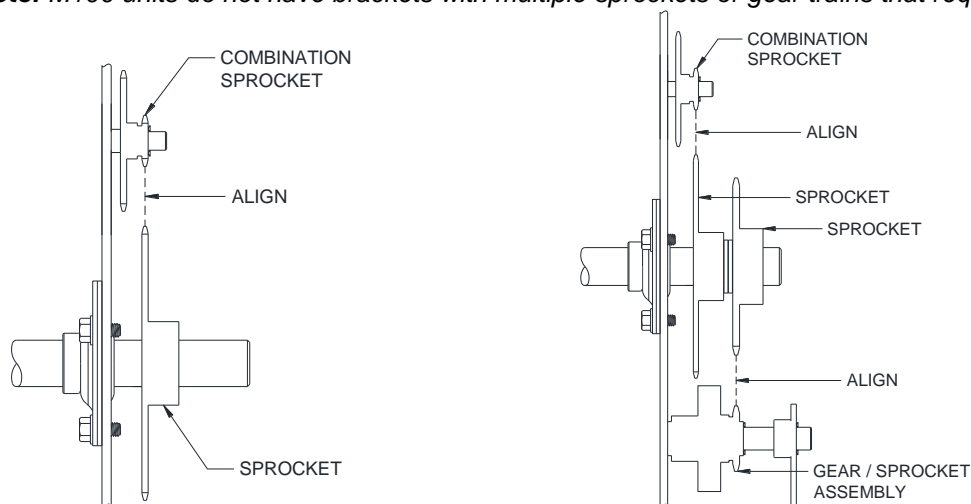

Figure 6.7– Conventional Fire Shutter Sprocket Alignment for Push-up Units (shown on left) and Motor Chain and Crank Units (shown on right)
12. Ensure the sprockets on the operator bracket are aligned as shown in **Figure 6.7**. Tighten the set screws in the sprockets and bearing.